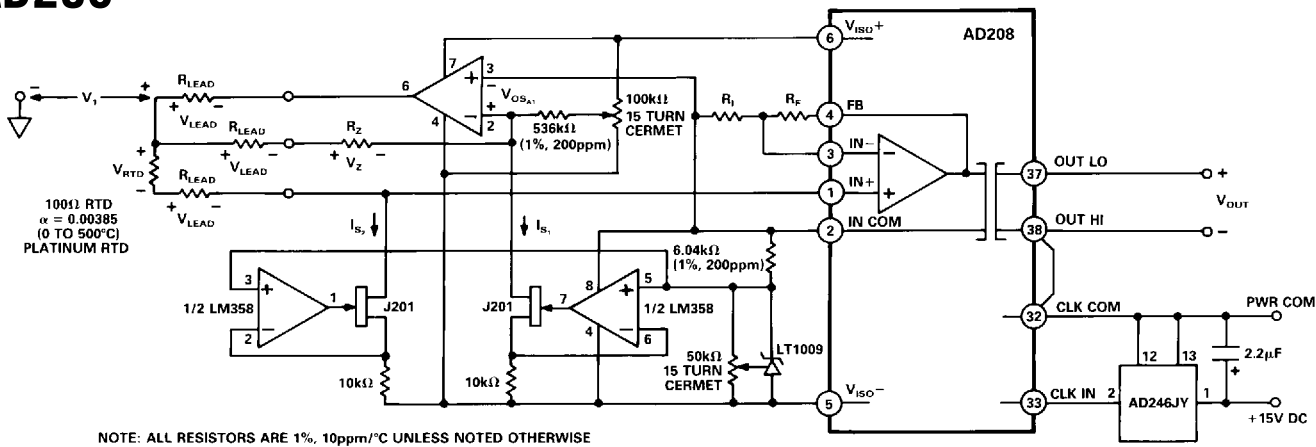

Figure 34. Using the AD208 in an Isolated RTD Application
**Isolated RTD Signal Processing.** The stable high gain properties and low offset drift characteristics make the AD208 an ideal component for use in isolated RTD signal processing applications. RTD applications typically require the following three major elements: a stable current excitation source, a lead compensation network and a zero suppression network. The circuit schematic of Figure 34 illustrates how to use the AD208 with a handful of low power external components to condition, amplify and isolate low level RTD signals.
In the RTD application shown in Figure 34, the stable current excitation source needed to drive the RTD consists of a:
Zero suppression is accomplished in Figure 34 by using a simple ground servo amplifier in combination with the resistor labelled  $R_Z$ , while lead wire compensation is realized by remote sensing the RTD with the ground servo. The current,  $I_{S1}$  develops a voltage  $V_1$  that is equal to:
where the voltages  $V_1$ ,  $V_{OS(A)}$ ,  $V_Z$  and  $V_{LEAD}$  are as indicated in Figure 34.
The current  $I_{S2}$ , in turn, develops the voltage seen by the input amplifier of the AD208 and, with reference to the voltages labelled in Figure 34,  $V_{IN}$  is given by:
The gain equation for the circuit of Figure 34 is determined by the formula given below.
The circuit of Figure 34 accommodates a 10 mV/°C, unlinearized output for a 100 Ω platinum RTD. The circuit allows for a maximum measured temperature range of 500°C. The initial input offset is ±1.3 mV (max) which is roughly equivalent to 5.2 Ω. The offset adjustment circuit, which has a ±1.5 mV (RTI) adjustment range, can be used to easily trim out this initial offset. The offset drift of the RTD application shown in Figure 34 is ±4 μV/°C (max) or 0.016 Ω/°C.